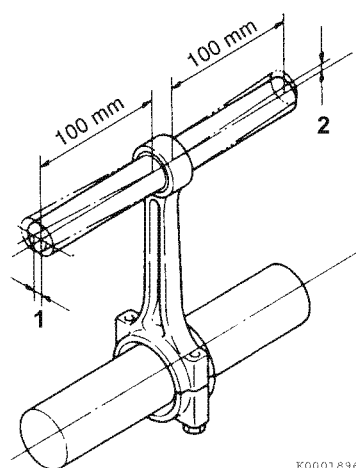
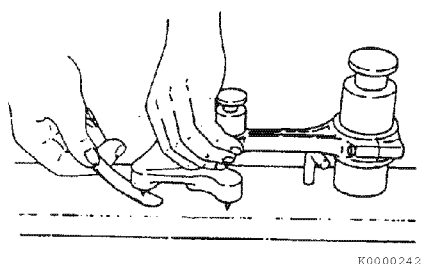

Figure 6-72
Figure 6-73
2. Measure the connecting rod twist (**Figure 6-72, (1)**) and bend (**Figure 6-72, (2)**) using a connecting rod alignment tool (**Figure 6-73**). Record the measurements. *See Connecting Rod on page 6-11 for specifications.*